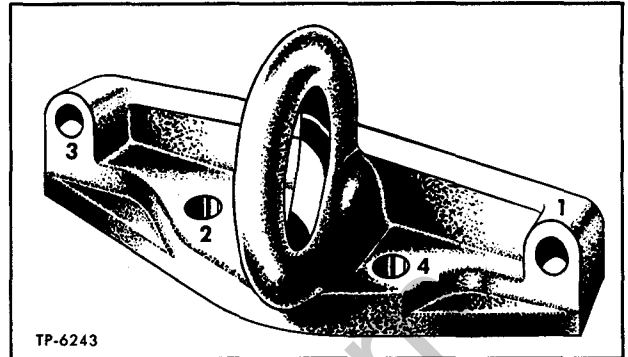

Figure 24—Lifting Bracket Bolt Tightening Sequence
7. Using new gaskets, install lifting brackets and tighten bolts in sequence indicated in figure 24. Final torque for lifting bracket bolts is 55 to 65 foot-pounds.